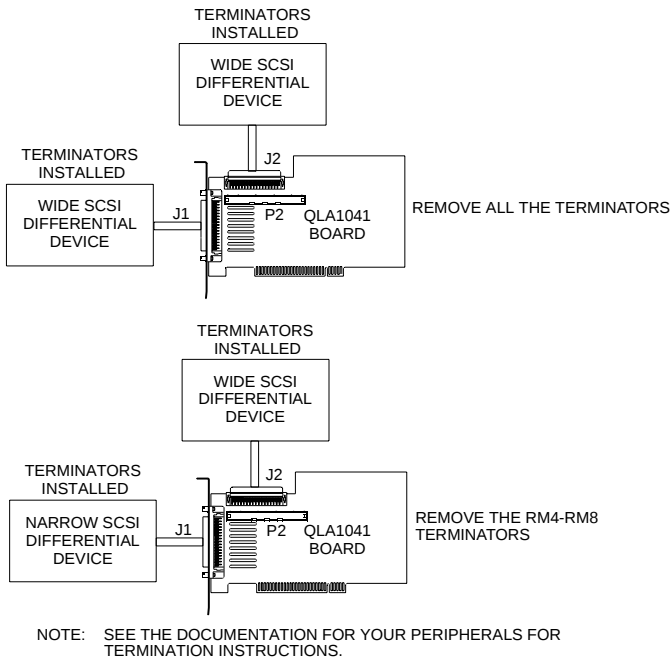

Figure B-4. Termination with J1 and J2 Connectors
- ❑ If you have wide devices on the J1 and J2 connectors (see figure B-4), remove all the terminators (RM1-RM8).